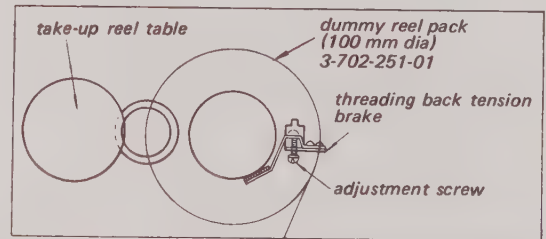

Fig. 5-21. Check for threading back tension
4. Adjust the screw on the Threading Back Tension Brake Assembly (See Fig. 5-21) for a reading of 8-9 grams. This screw is on the right-hand brake assembly beneath the Supply Reel Table.